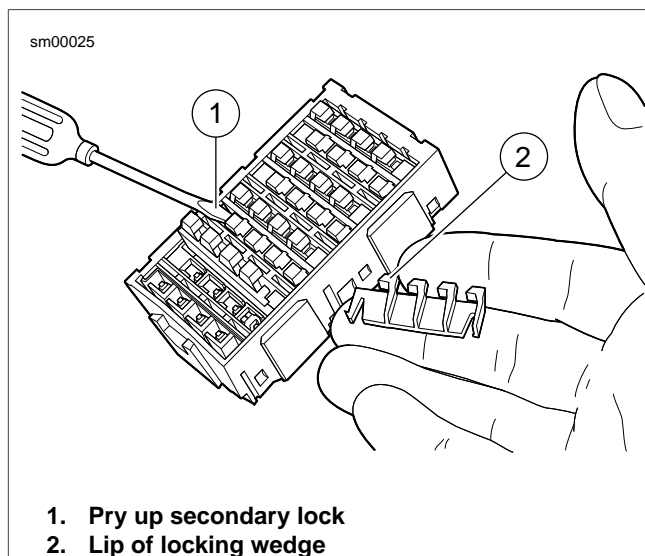

Figure A-11. Fuse Block: Remove Secondary Locks
1. See Figure A-11. To remove secondary locks, insert end of small flat blade screwdriver (1) under lip of locking wedge (2) and gently pry up secondary lock.